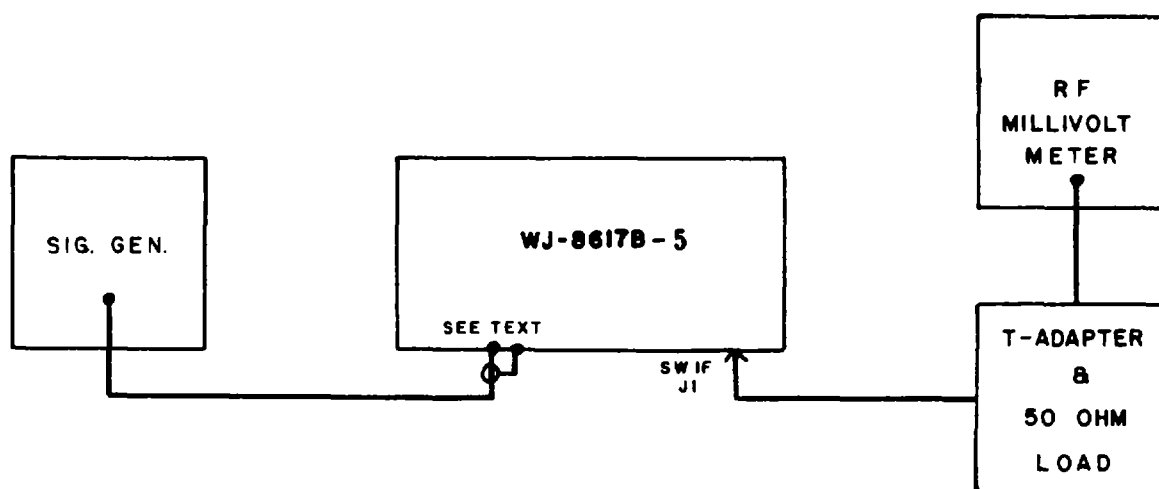

Figure 4-3. AM Demodulator Performance Test, Equipment Connections
3. From the underside of the receiver, connect the signal generator between pins 43 (signal) and 44 (shield) of connector XA16 and connect the RF millivoltmeter to rear panel connector J1, as illustrated in **Figure 4-3**.